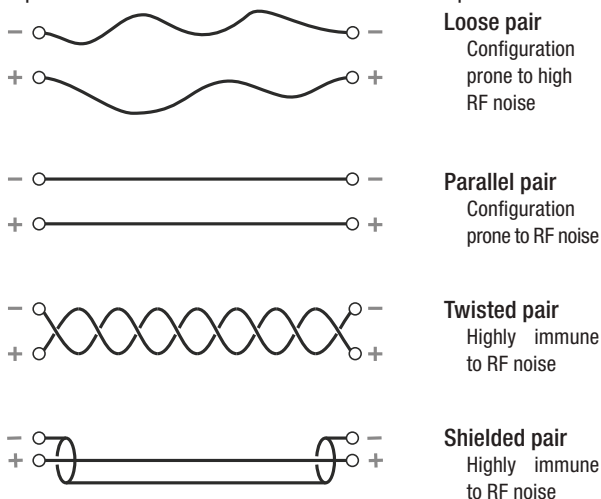

FIGURE 4: Cabling configuration.
- ▶ set the cabling for RF noise rejection: shielded or twisted cables are advisable configuration (ref. FIGURE 4);